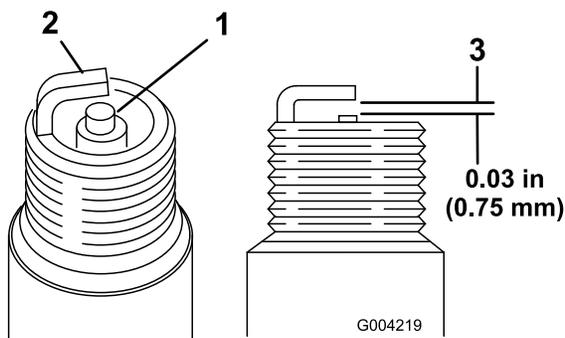

Figure 39
1. Look at the center of both spark plugs (Figure 39). If you see light brown or gray on the insulator, the engine is operating properly. A black coating on the insulator usually means that the air cleaner is dirty.
2. Check the gap between the center and side electrodes (Figure 39).
3. Bend the side electrode (Figure 39) if the gap is not correct.